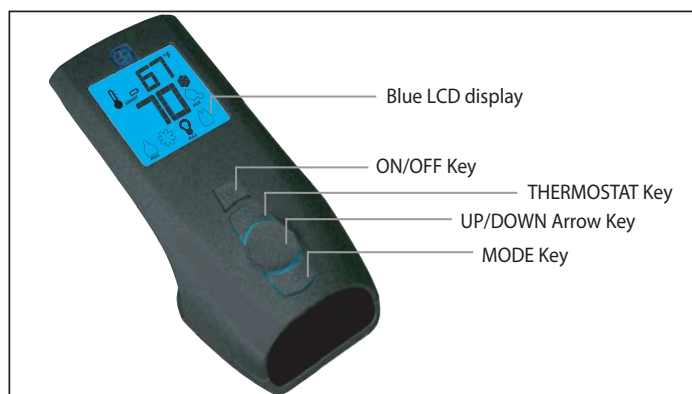
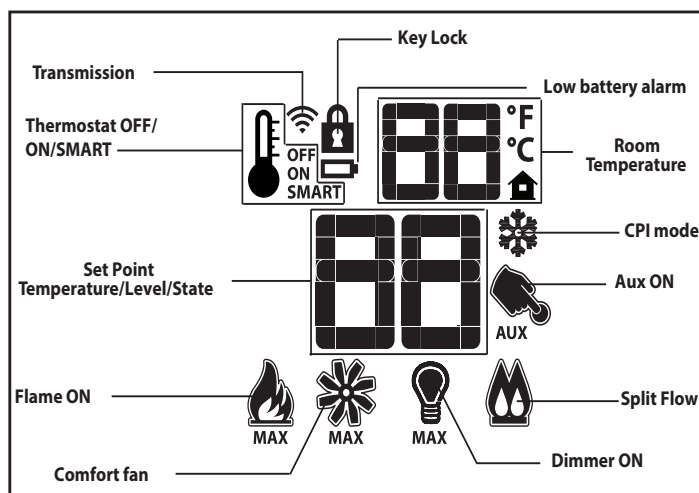

Figure 5: Proflame 2 Transmitter
Figure 6: Proflame 2 Transmitter LCD Screen
The Proflame 2 Transmitter is a black remote control with a blue backlit lcd display. It uses a streamline design with a simple button layout and informative lcd readout (Figure 5). The Transmitter is powered by three (3) AAA type batteries. A Mode Key is provided to Index between the features and a Thermostat Key is used to turn on/off or index through Thermostat functions (Figure 5 & Figure 6).